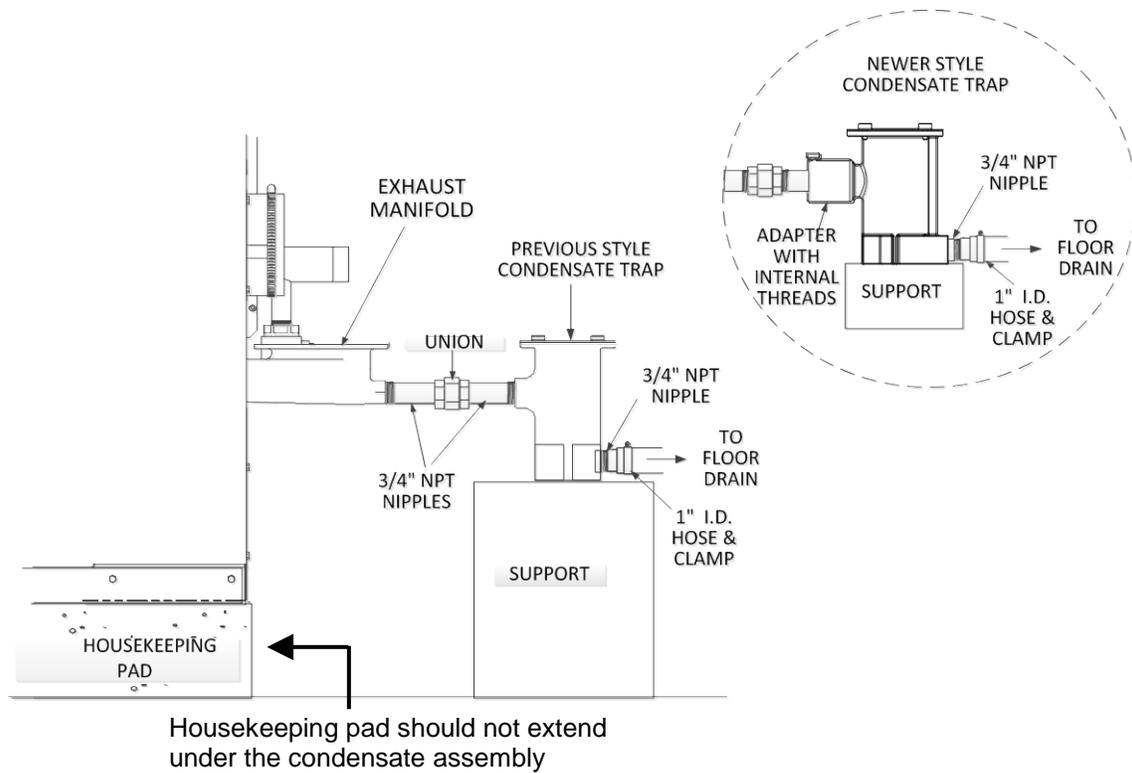

Figure 2-7. Sample Condensate Trap Installation
A sample Condensate Trap installation is shown in Figure 2-7. However, the actual installation details for the trap will vary depending on the available clearances, housekeeping pad height/dimensions and other prevailing conditions at the site. The following general guidelines must be observed to ensure proper condensate drainage:
- The condensate trap inlet (Figure 2-7) must be level with, or lower than the exhaust manifold drain port.
Two different styles of condensate traps are currently in use. The functions and connections provided by each style are identical however the two styles look slightly different. Figure 2-7 shows the two styles that are currently in use.